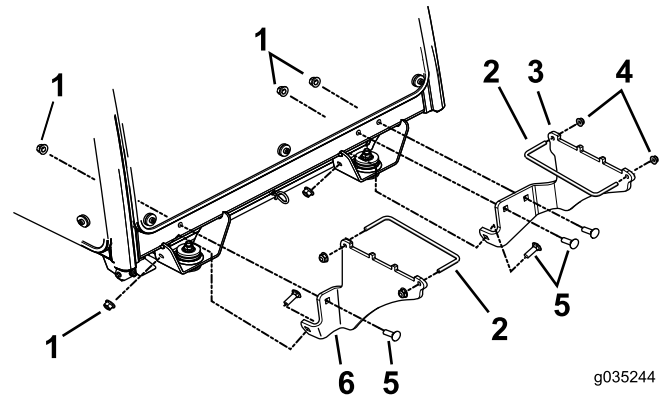

Figure 2
2. Install the weight brackets as shown in Figure 2.